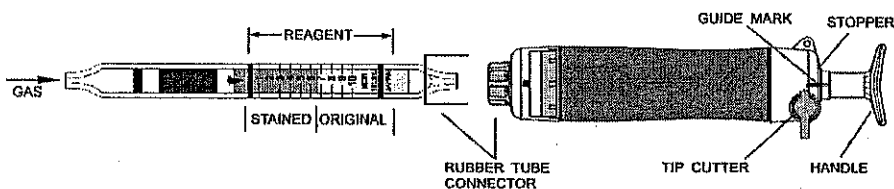

Fig.1
- ① Break both ends of the detector tube.
- ② Insert the detector tube into the aspirating pump securely as shown in Fig.1. (Arrow mark shall point to the pump.)
- ③ Align the guide marks on the shaft and stopper of the aspirating pump.
- ④ Pull the pump handle at a full stroke until it locks and wait for 1.5 minutes or until the completion of sampling is confirmed with the flow indicator of the pump (See descriptions about the flow indicator in the instruction manual of the pump).
- ⑤ On completion of sampling, read the scale at the maximum point of the stained layer.
- ⑥ When the concentration is below the scale range, 4 pump strokes can be used to determine concentrations of 0.2 to 2.0 ppm. Then multiply the reading value by 1/5.